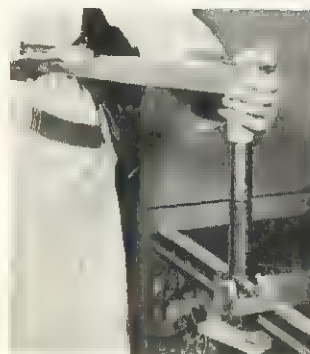

FIG. 73-1
1. Place the nozzle holder assembly in the holding fixture with the nozzle pointing upward and using the correct size box wrench, unscrew the nozzle cap nut, Fig. 73-1; carefully remove the spray nozzle (do not use a pipe wrench). The nozzle valve and body are a mated assembly and cannot be interchanged with lapped parts from other spray nozzles. Protect the lapped surface at the end of the nozzle holder by screwing the nozzle cap nut back in place. If nozzle is stuck in nozzle holder cap nut because of carbon formation, carefully remove by using a brass rod, one end of which conforms with the contour of the nozzle tip, Fig. 74-1.